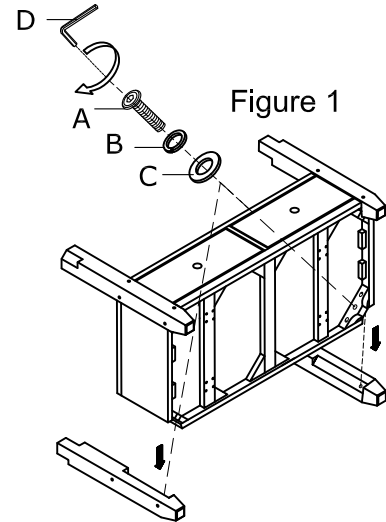

Figure 1
1. Attach the four legs to the shelf using Flat Washer (C), Lock Washer (B) and Bolt (A), tighten with the Allen Wrench (D). As Shown in Figure 1. (Do not over tighten bolts during assembly. )